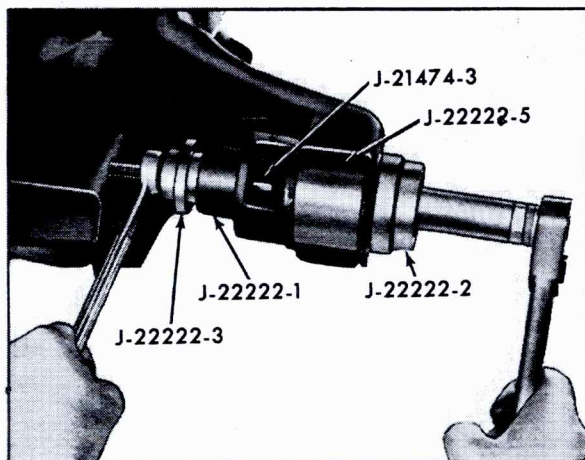

Fig. 3-50 Installing Upper Control Arm Bushings
1. Install tools as shown in Fig. 3-50, and press bushings into lower control arm.